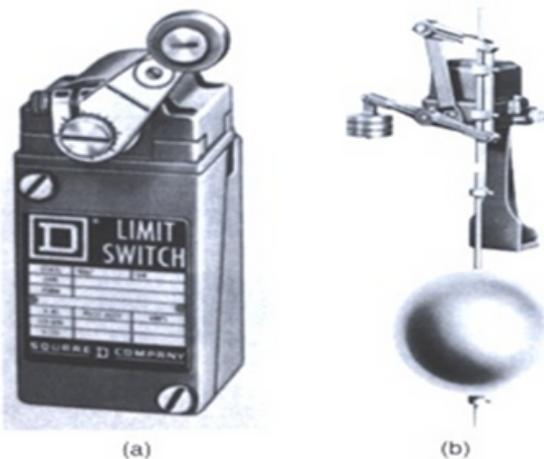

Figure 2.2.2
- Figure 2.2.2 show that the limit switch with one NC contact, rated for ten million operations, position accuracy is 0.5 mm.